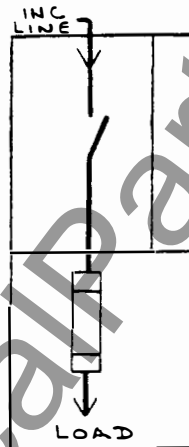

FIG. 2
Single unit equipment - (Fig. 2)
2. Single Unit Equipment - Fig. 2